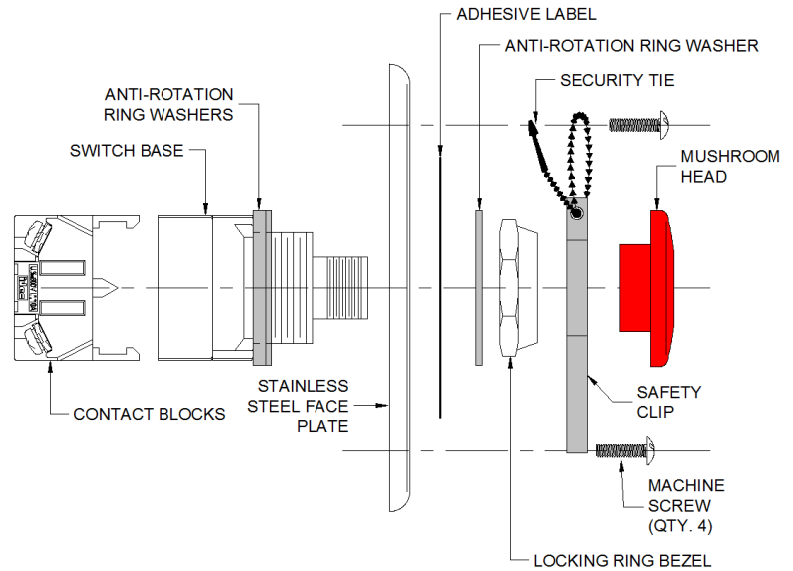

Figure 3 Switch Assembly
The manual release switch components are shipped disassembled and must be assembled prior to installation using the following instructions. See Figure 3 for switch assembly diagram.
6. Install the safety clip between mushroom head and locking ring bezel, as shown in Figure 3.